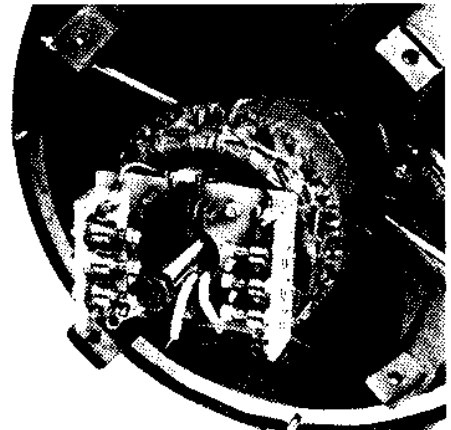
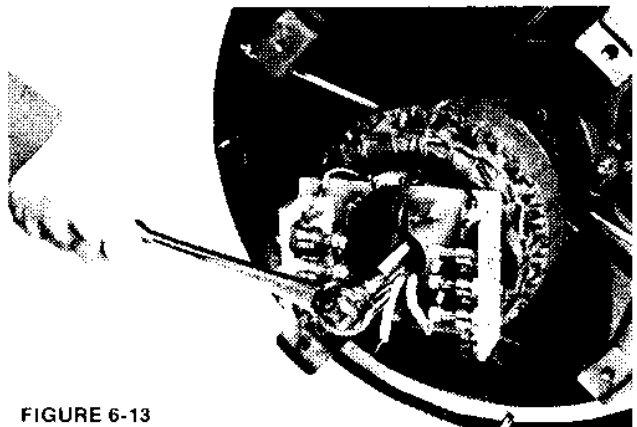

FIGURE 6-12
FIGURE 6-13
3. Use a six inch, 3/4-16NF, capscrew for a puller. (See section 9.) The hole that the mounting bolt goes through is threaded. Screw the puller bolt into the hole and it will push against the end of the shaft. (Figure 6-12.) Carefully feed the main rotor leads through the hole as the exciter armature is removed. (Figure 6-13.)